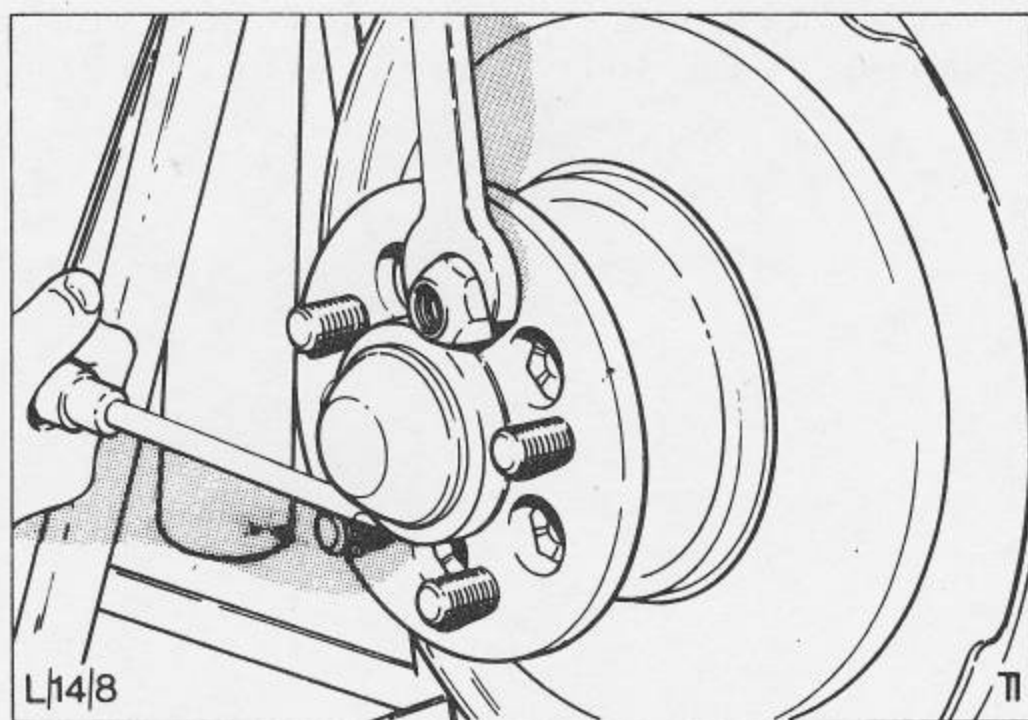

Fig.25 Drawing wheel stud into position.
5. Lightly lubricate new stud splines. Locate stud in it's hole and draw it into position using a suitable spacer and wheel nut reversed ie tapered face outwards Fig.25